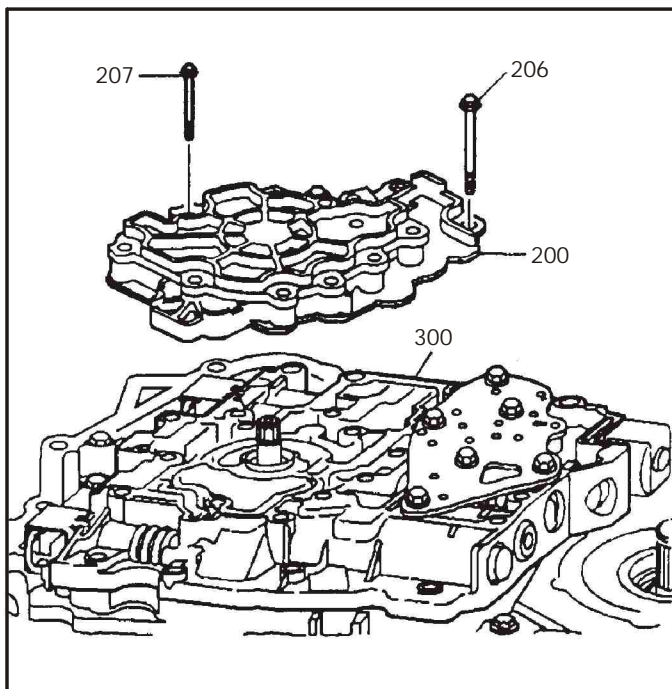

Figure 48
10. Remove the oil pump assembly from the valve body, as shown in Figure 48, and set aside for now, with the pump resting on its cover.